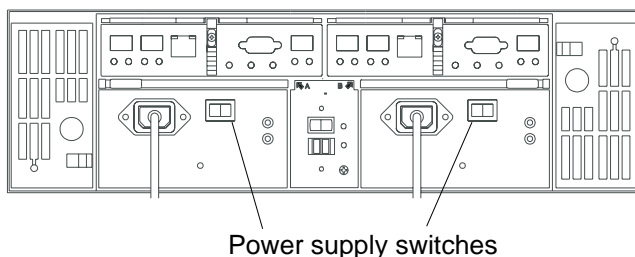

Figure 3-1 Turning the Power On and Off
To turn on the enclosure after a normal shutdown (as described in “Turning the Power Off” on page 32), turn on both power switches on the rear of the enclosure (see Figure 3-1) or the main circuit breaker, whichever is applicable. You must turn on both power supply switches to take advantage of the redundant power supplies.
1. Turn off both power switches (see Figure 3-1 on page 28).
1. After the emergency situation is over or power is restored to the site, turn off all power switches (see Figure 3-1 on page 28).
3. Turn on the power to the enclosures (see Figure 3-1 on page 28).
4. Turn off both power switches on the rear of the enclosure or the main circuit breaker, whichever is applicable (see Figure 3-1 on page 28).